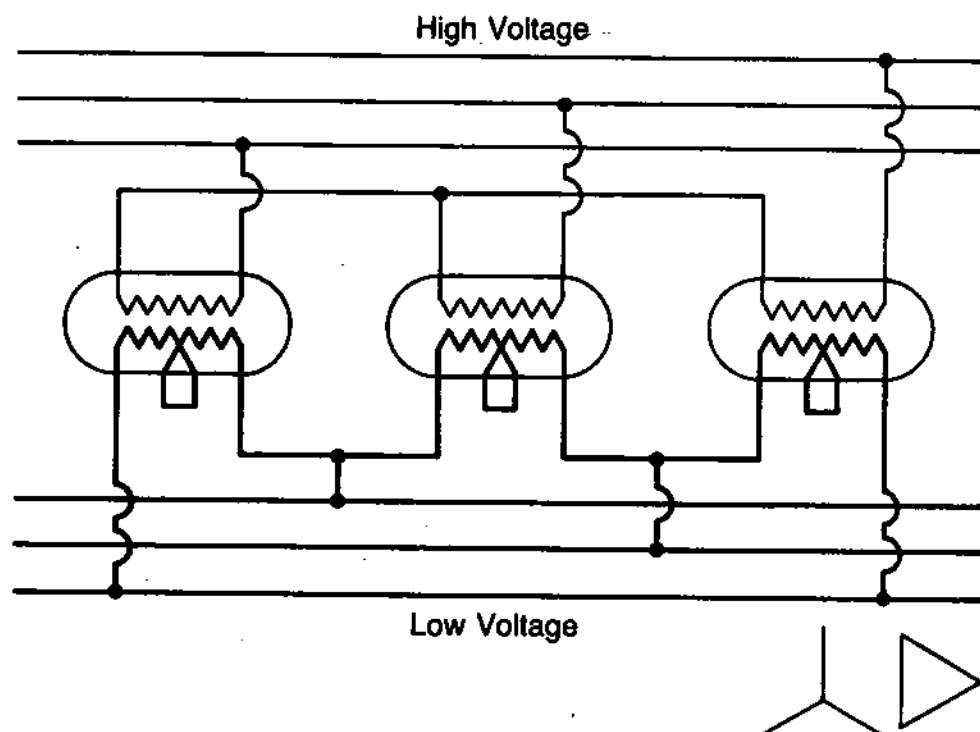

Fig. 34 – Three-Phase, Star, Three-Wire, HV Delta, Three-Wire, LV Connection
c. *Three-phase, wye, three-wire, high voltage; delta three-wire, low voltage* connections are shown in Figure 34. When three transformers are operated with their high-voltage windings in wye, the incoming line voltage is the value of the square root of three, 1.732, times the transformer winding voltage. This connection is frequently used because it presents a convenient way of boosting the transmission voltage without requiring additional transformers.